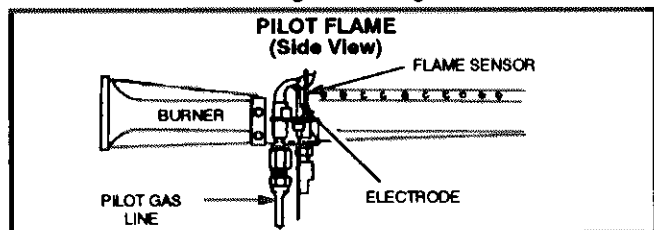

FIGURE 7
- 1— *Pilot Flame* — Pilot flame must surround the end of flame sensor for proper operation of pilot safety circuit. See figure 7.